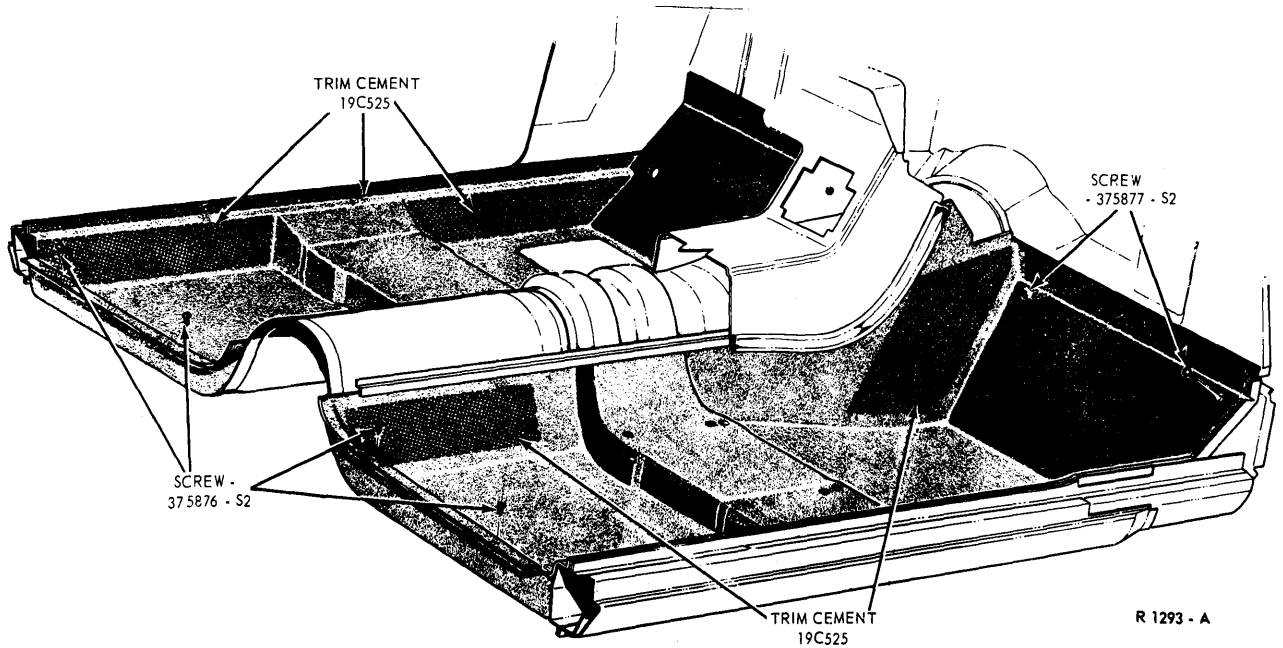

FIG. 7—Carpet Installation
9. Remove the carpet retaining screws and remove the carpet from the car (Fig. 7).
10. Position the carpet to the floor pan and cement it in place with trim cement C2AZ-19C525-A (Fig. 7).
11. Install the carpet retaining screws (Fig. 7).